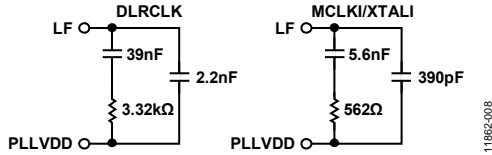
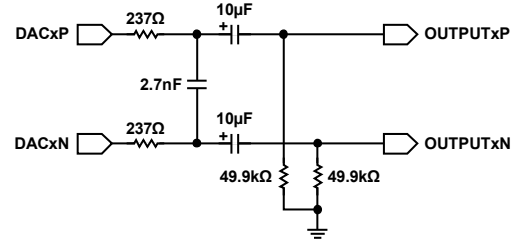
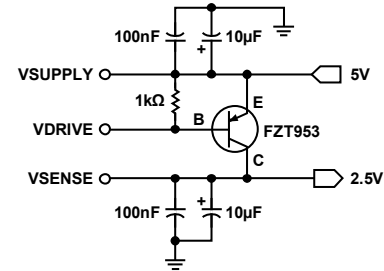
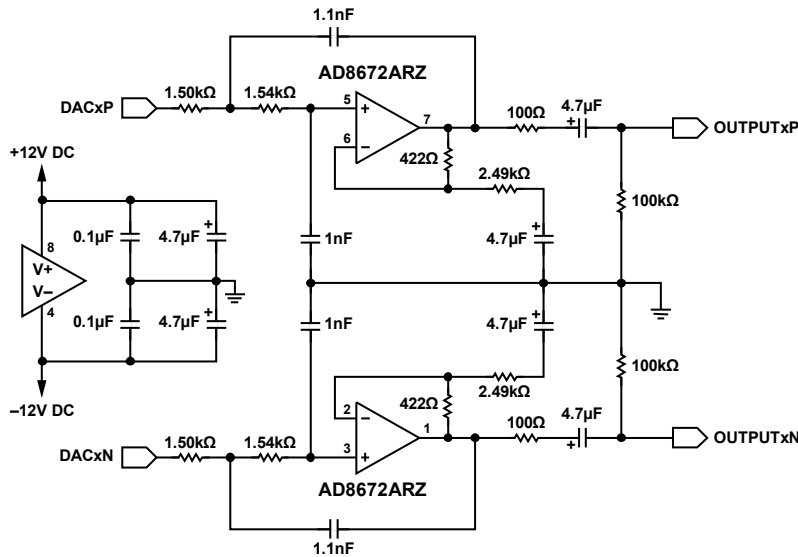

Figure 8. Recommended Loop Filters for DLRCLK and MCLKI/XTALI PLL Reference Modes
Figure 9. Typical DAC Output Passive Filter Circuit (Differential)
Figure 10. Recommended External Regulator Circuit
Figure 11. Typical DAC Output Active Filter Circuit (Differential)
Typical application circuits are shown in Figure 8 to Figure 11. Recommended loop filters for the DLRCLK and MCLKI/XTALI modes of the PLL reference are shown in Figure 8. Output filters for the DAC outputs are shown in Figure 9 and Figure 11, and a recommended external regulator circuit is shown in Figure 10.
The differential analog outputs require a mere single-order, passive differential resistor-capacitor (RC) filter to provide the specified DNR performance (see Figure 9 for an example filter). The outputs can easily drive differential inputs on a separate printed circuit board (PCB) through cabling, as well as differential inputs on the same PCB.
If more signal level is required or if a more robust filter is needed, a single op amp gain stage, designed as a second-order, low-pass Bessel filter, can be used to remove the high frequency out-of-band noise present on each pin of the differential outputs. The choice of components and design of this circuit are critical to obtaining the full DNR yield of the DACs (see the recommended passive and active circuits in Figure 9 and Figure 11). This filter can be built into an active differential amplifier to provide a single-ended output with gain, if necessary. Note that the use of op amps with low slew rate or low bandwidth can cause high frequency noise and tones to fold down into the audio band; exercise care when selecting these components.
The ADAU1962 PLL can also be programmed to run from an external LRCLK without an external master clock. Setting the PLLIN bits in the PLL\_CLK\_CTRL0 register to 0b01 and connecting the appropriate loop filter to the LF pin (see Figure 8), the ADAU1962 PLL generates all of the necessary internal clocks for operation with no external master clock. This mode reduces the number of high frequency signals in the design, reducing EMI emissions.